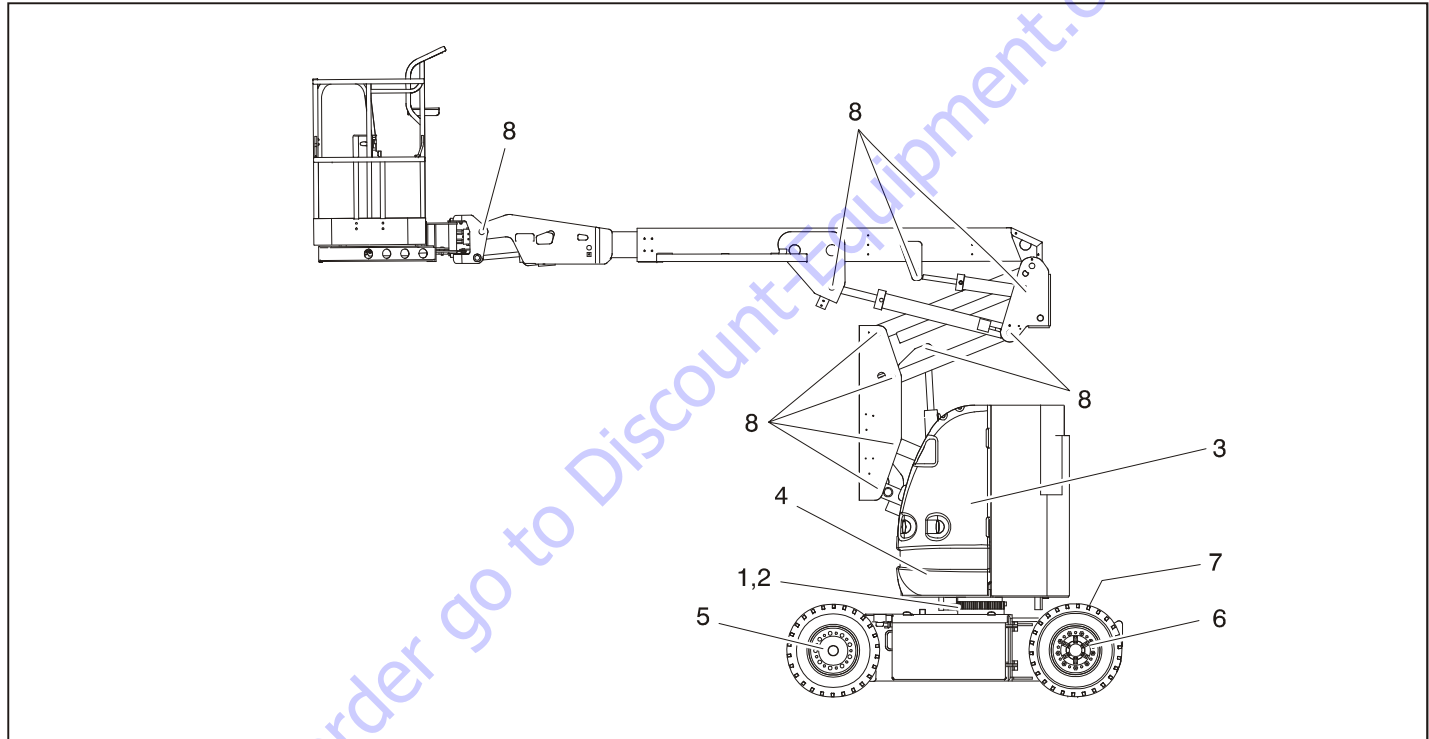

Figure 6-1. Operator Maintenance & Lubrication Diagram
**NOTE:** The following numbers correspond to those in Figure 6-1., Operator Maintenance & Lubrication Diagram.